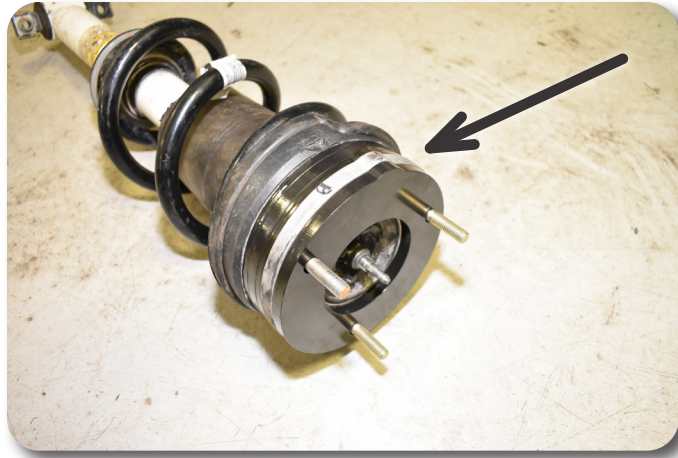

Figure 13
17. Install the provided 3/8" top spacer on top of the upper strut mount Figure 13. The notch on the top spacer will line up with the notch on the upper strut mount.
Verify the strut assembly looks like Figure 13 with the two preload spacers installed and the 3/8" top spacer.